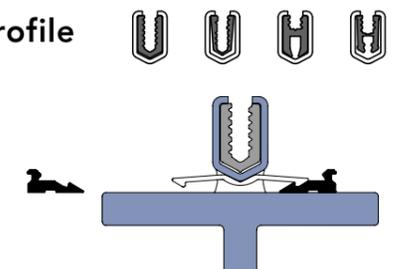

fig. 1: Perfect protection against corrosion
- Perfect protection against corrosion due to distance between structural profile and system base profile, thus no components in direct contact with each other (see fig. 1)